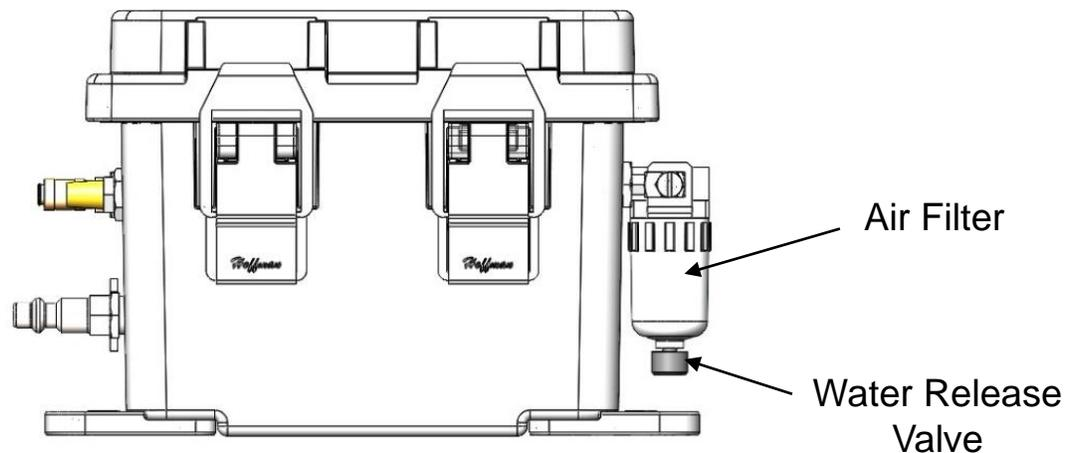

Fig. 8
2. A small copper screw found on the back of the tool handle (above the reset button) adjusts the cut-off timing. (Fig. 8)